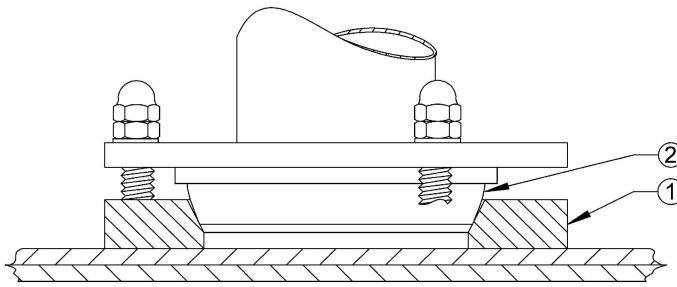

FIGURE 2.1
Be sure that the tapered side of the lower clamping ring (1) atop the housing mates with the half ball (2) on the candy cane. Feed the three studs at the top of the housing through the holes in the upper clamping ring, and secure with the three lockwashers and 1/4-20 nuts provided. **DO NOT INSTALL NUTS OR WASHERS BETWEEN UPPER AND LOWER CLAMPING RINGS.** (See Figure 2.1)